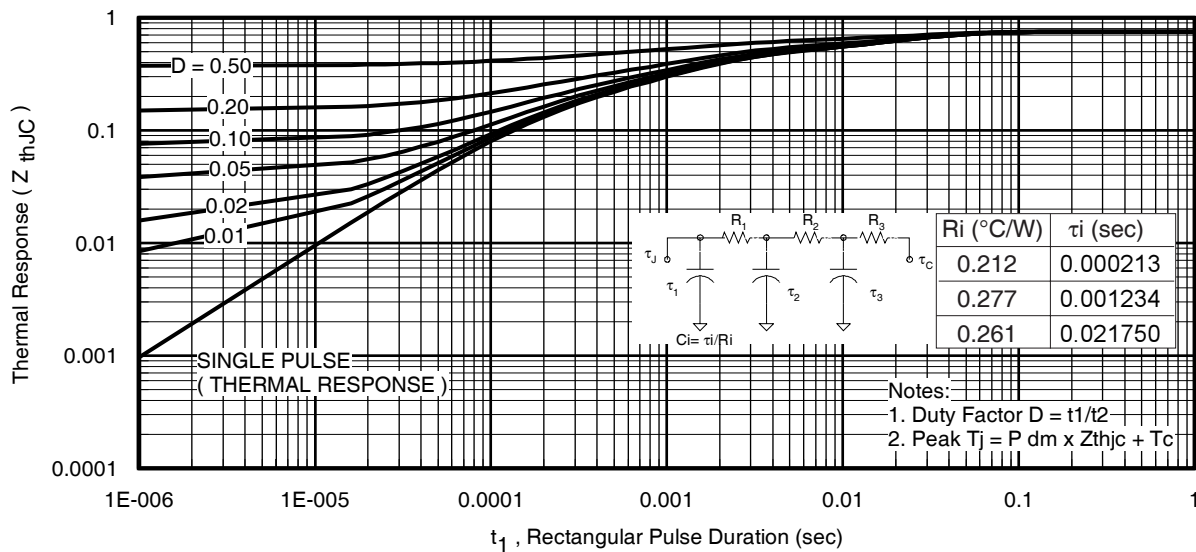

Fig 11. Maximum Effective Transient Thermal Impedance, Junction-to-Case
- ① Repetitive rating; pulse width limited by max. junction temperature. (See fig. 11).
- ② Limited by T_{Jmax} , starting $T_J = 25^\circ\text{C}$, $L = 0.066\text{mH}$, $R_G = 25\Omega$, $I_{AS} = 75A$, $V_{GS} = 10V$. Part not recommended for use above this value.
- ③ Pulse width $\leq 1.0\text{ms}$; duty cycle $\leq 2\%$.
- ④ $C_{oss \text{ eff.}}$ is a fixed capacitance that gives the same charging time as C_{oss} while V_{DS} is rising from 0 to $80\% V_{DSS}$.
$Z_{thJC}(D, t_{av})$ = Transient thermal resistance, see figure 11)